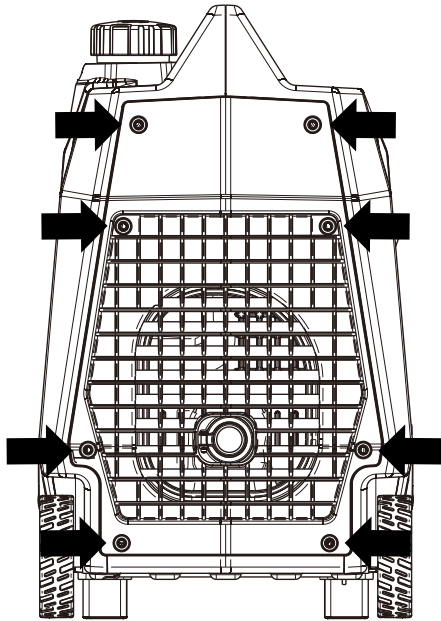

Figure 17: Remove screws holding muffler cover
3. Remove the screws holding the muffler cover in place (see Figure 17).